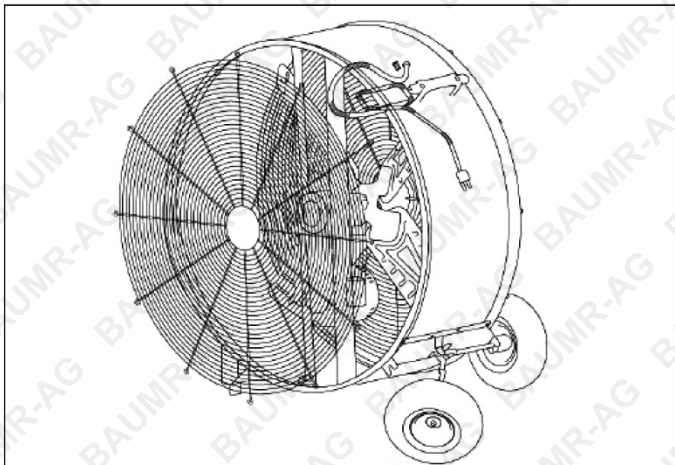

Figure 2: Removing Guard
1. Remove the screws from the Rear Guard and tilt the wheel (see figure 2).